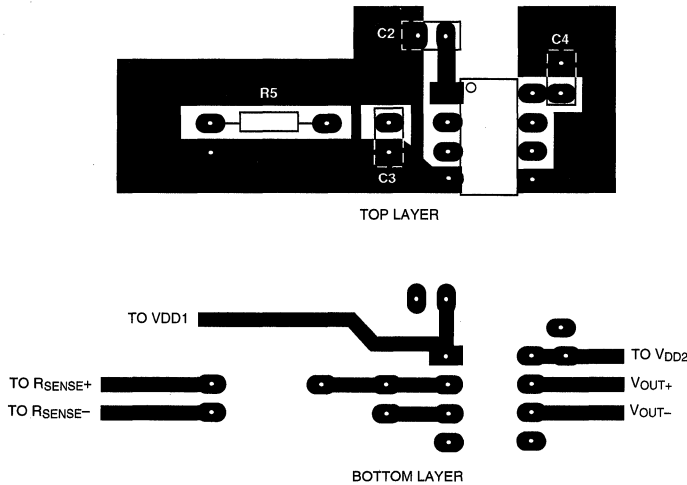
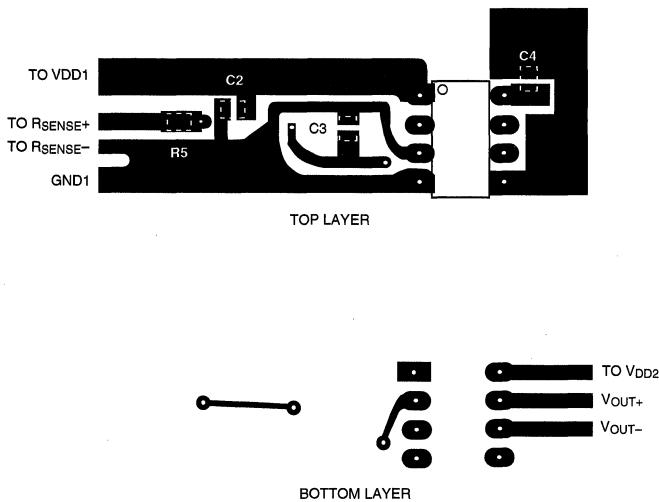

Figure 6. Example PC Board Layout for Isolation Amplifier Input Circuit.
Figure 7. Example Surface-Mount PC Board Layout to Minimize Offset Tempco.
Several steps can be taken to minimize the mutual coupling between these two parts of the circuit, thereby improving the offset performance of the design. Separate the two bypass capacitors (C2 and C3) as much as possible (even placing them on opposite sides of the printed circuit board), while keeping the total lead lengths, including traces, of each bypass capacitor less than 20 mm. The printed circuit (PC) board traces should be made as short as possible and placed close together or over a ground plane to minimize loop area and pickup of stray magnetic fields. Avoid using sockets, as they will typically increase both loop area and inductance. Finally, using capacitors with small body size and orienting them (C2 and C3) perpendicular to each other on the PC board can also help. Figure 6
shows an example through-hole PC board layout for the isolation amplifier input circuit which illustrates some of the suggestions described above. The layout shown in Figure 6 is meant for illustrative purposes and cannot be reproduced photographically to generate a working PC board.
It is also possible to utilize this mutual coupling to advantage. For example, the layout shown in Figure 6 can be modified to enhance the inductive coupling in such a way as to minimize offset drift over temperature, as shown in Figure 7. The objective of this layout is to cancel the mutual coupling effects as much as possible. To accomplish this, the input leads cross over each other close to the package and then form a loop with the input bypass capacitor (C3). This input loop is inside of another loop formed by the power supply traces and
cancel the tempco for every device due to part-to-part variations. The offset tempco can typically be reduced by a factor of two or more. Unfortunately, this reduction in offset drift comes at the price of a slight increase in initial offset, on the order of 1-2 mV of additional offset for the HCPL-7820. Similar to Figure 6, the layout in Figure 7 is meant for illustrative purposes only.
of the isolation amplifier. Using surface-mount components can help achieve many of the PC board objectives discussed in the preceding paragraphs. An example through-hole PC board layout illustrating some of the more important layout recommendations is shown in Figure 6. Note that the ground plane does not extend directly below the body of the isolation amplifier.